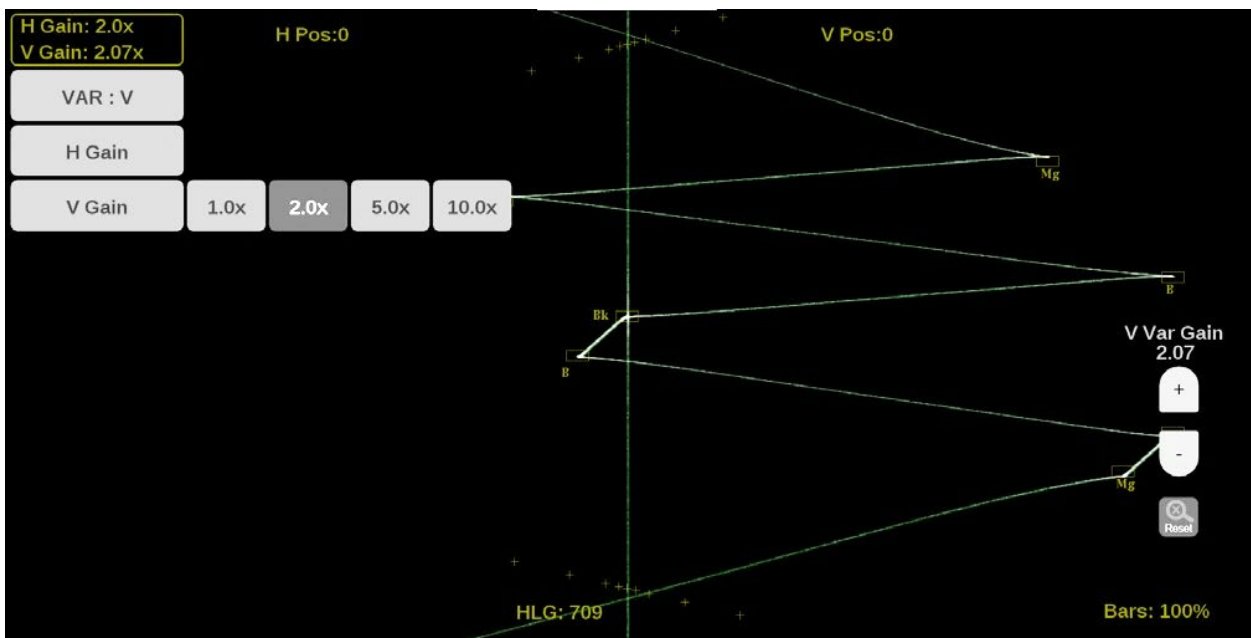

Figure 214: Lightning on-screen tools – vertical gain
- Select **VAR: V** to change the vertical gain. Variable gain allows you flexibility in changing the gain factor between 0.5x to 20.0x. (See Figure 214.)